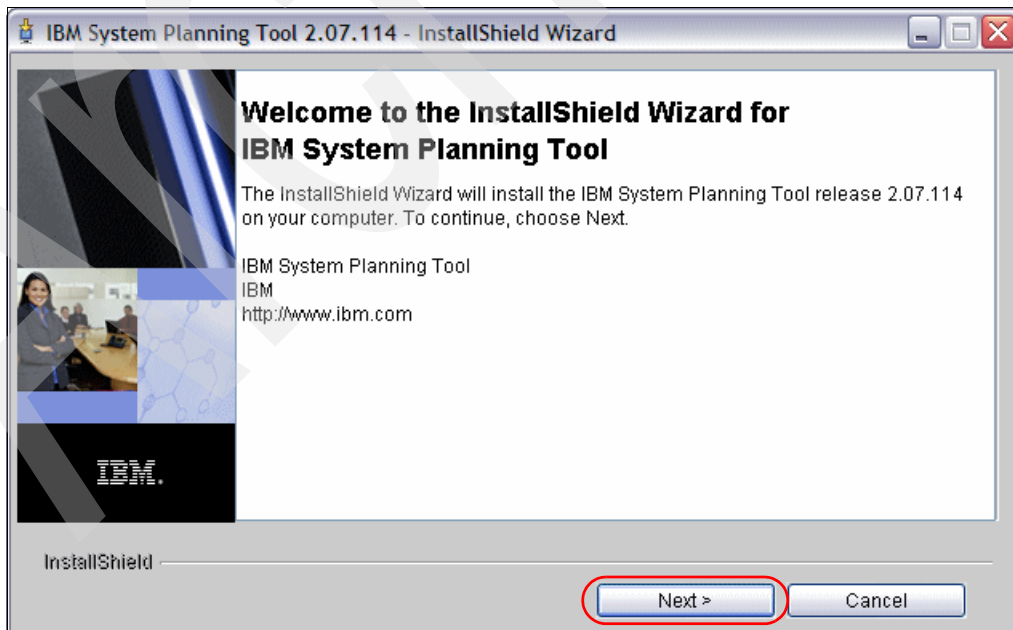

Figure A-10 Start the installation process
5. The wizard requests your first action, as shown in Figure A-10. Click **Next**.